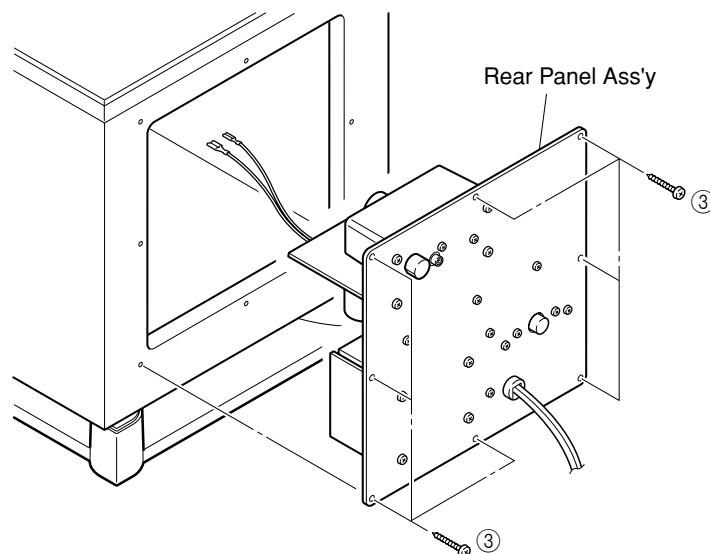

Fig. 2
- Remove 8 screws (③). (Fig. 2)
* Screws (③) are identified with arrow marks (◀).
- Pull out the rear panel ass'y. (Fig. 2)